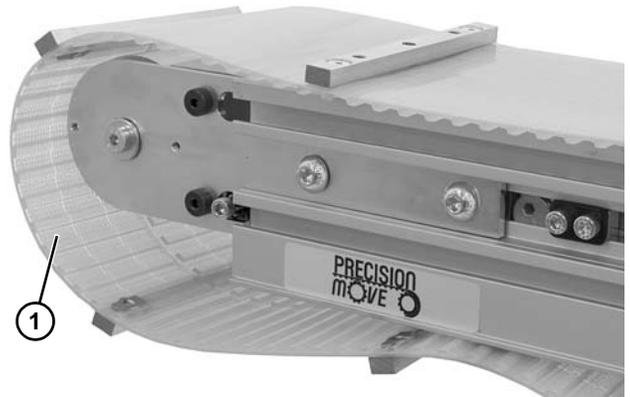

**Figure 26**
12. On both sides of the tension end, loosen the two tail clamp bolts (**Figure 26, item 1**), and push head plate assembly (**Figure 26, item 2**) inward.